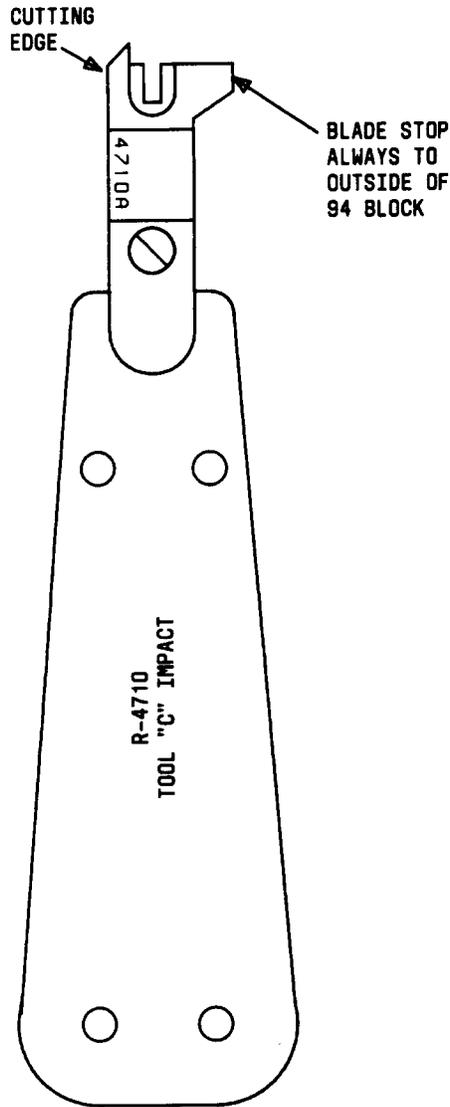

Fig. 1—R-4710 "C" Impact Tool With 4710A Blade
**2.02** The R-4710 "C" impact tool (Fig. 1) has an adjustable impact force of 18 to 21 pounds. The available blades are 4710 and 4710A. The 4710 blade